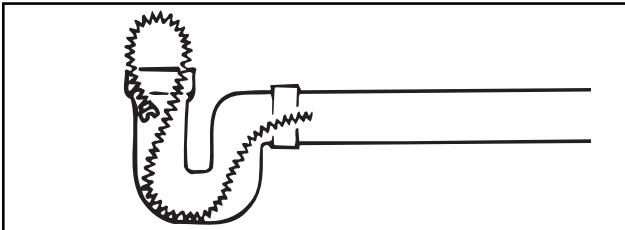

Figure 8 – Looping Cable In Line
- Secure the cable by looping it in the line (*Figure 8*). This procedure is especially useful when cleaning a line has a large slope.